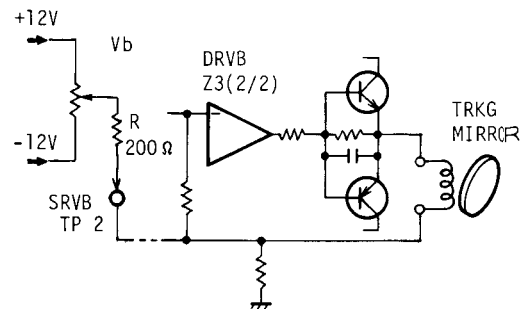

Fig. 3.7 TRKG Mirror Bias
- Connect the volume for applying the mirror bias to the TP2 of the SRVB, as shown in Fig. 3.7 (R should be 200 ohms).